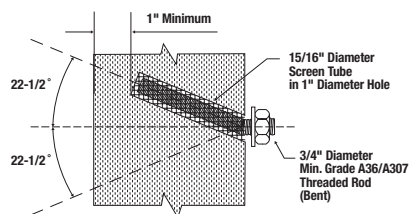

Figure 2
**22-1/2° Combination Anchor – Configuration B (See Figure 2)**